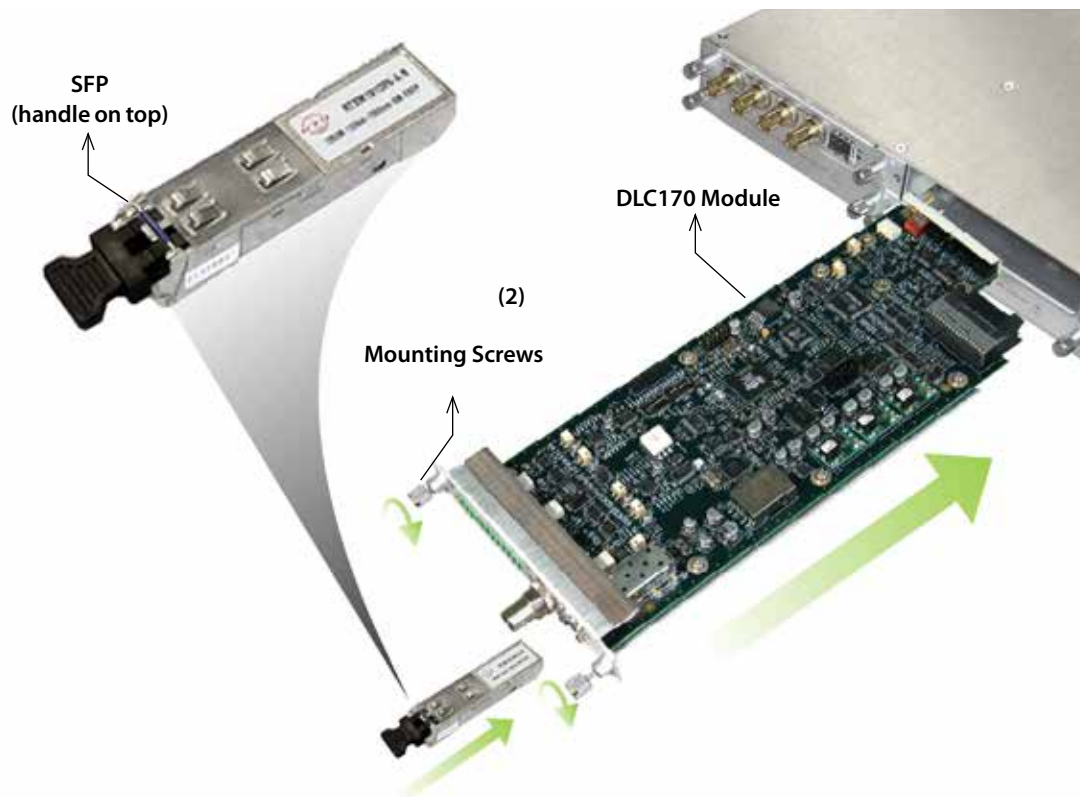

Figure 8. DLC170 Module and SFP Installation
To install a DLC170 in the host chassis (see Figure 8), perform the following steps:
5. Install the SFP into the DLC170 (handle on top as shown in Figure 8). Push the SFP into the socket located on the right side of the function module until it is firmly seated into the socket.